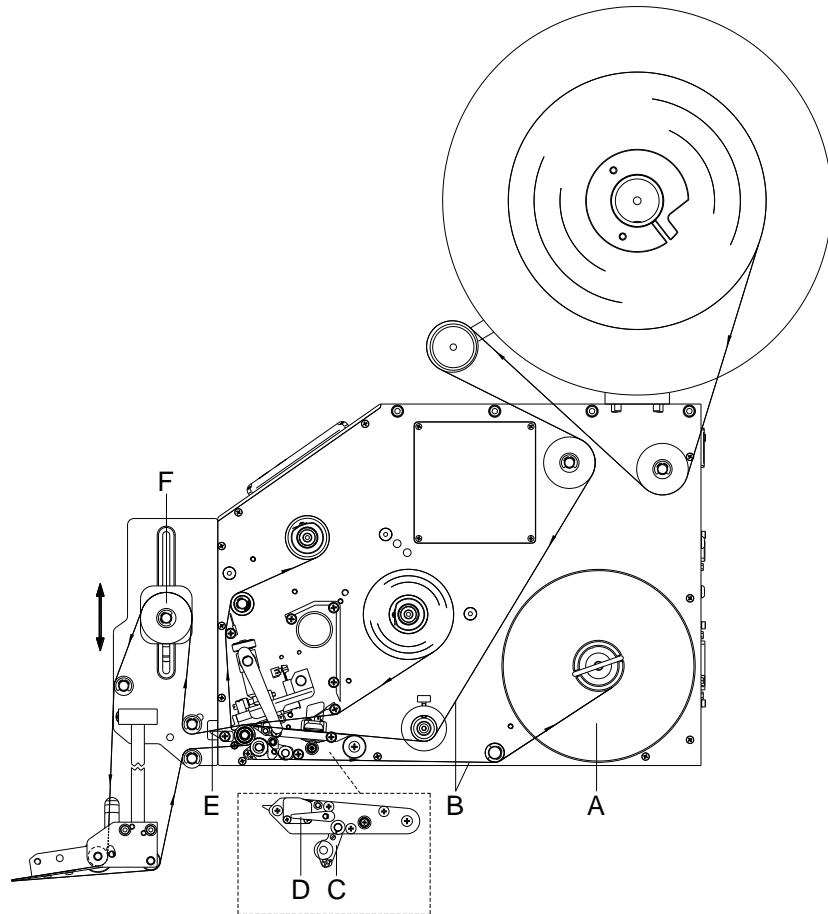

Figure 19
1. Move the dispensing rocker (C, Figure 19, page 32) forwards/downwards by pressing the lever (D, Figure 19, page 32) downwards.
2. Turn the clamping lever (D) against clockwise direction to loosen the mounting plate (A).
3. If required change the angle position of mounting plate (A).
4. Turn the clamping lever (D) in clockwise direction to tighten the position of mounting plate (A).
5. Turn the internal rewriter (A, Figure 19, page 32) of the printing module as long as the backing paper is again tensioned.
6. Press the dispensing rocker (C, Figure 19, page 32) again upwards and engage.